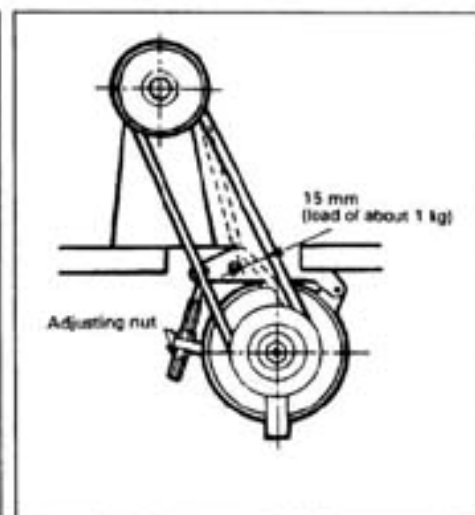

Fig.4
7、Installing the belt (Fig.4):